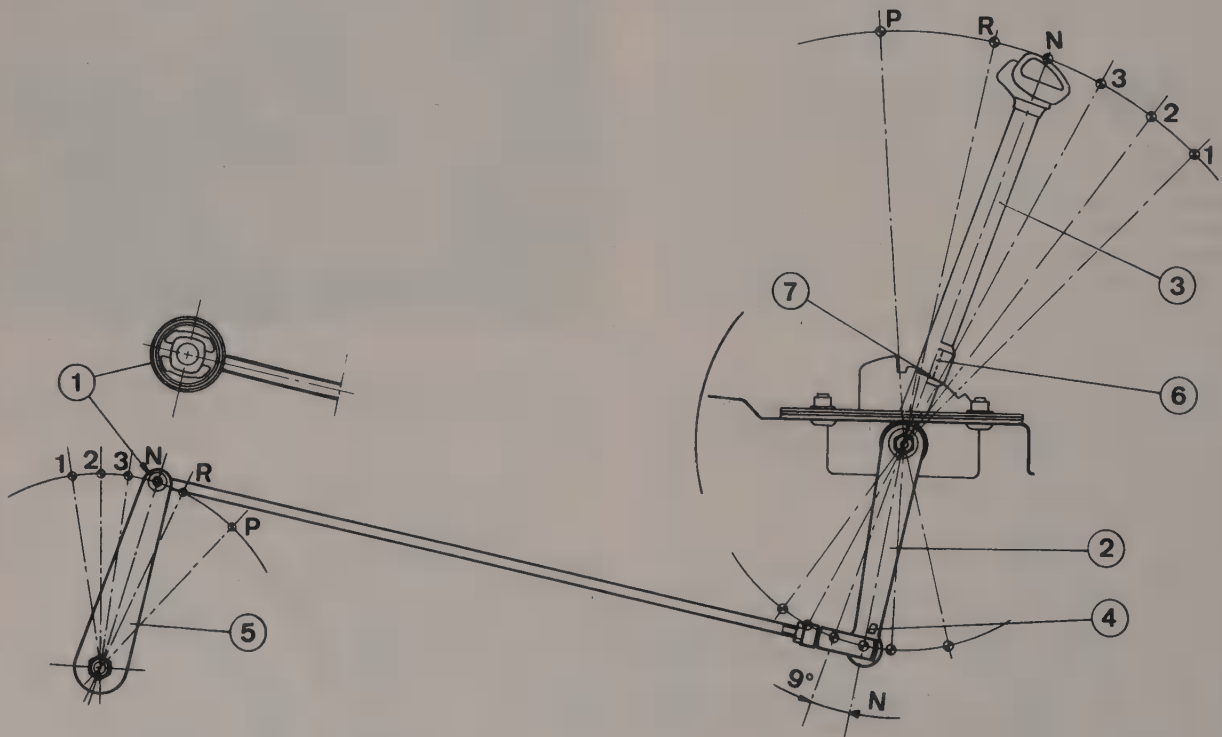

Fig. 6.17 Automatic transmission selector lever components (Sec 30)
- 6 Apply a little grease to the pin and housing, then assemble them, noting that the vibration damper (where fitted) should be positioned as shown in Fig. 6.17.